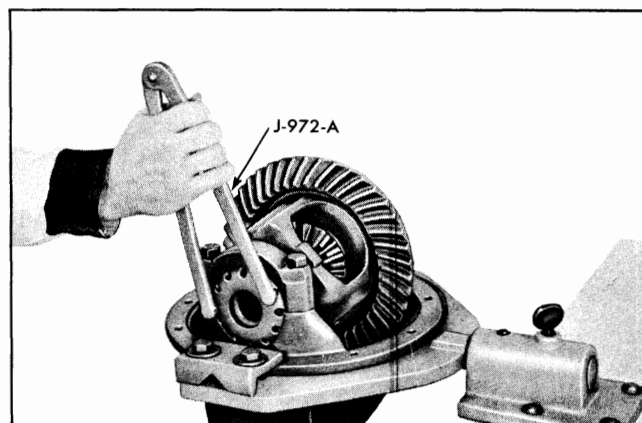

Fig. 4-20 Turning Adjusting Nut with J-972-A
9. Back off right hand adjusting nut (farthest from the ring gear) using tool J-972-A (Fig. 4-20) and watch outer race of side bearing to see if it turns with adjusting nut. Race should turn with the nut, as nut is backed off, until nut is turned two to three notches (holes in adjusting nut). Count notches from original mark to point where race stops turning to check original adjustment and retighten two to three notches.